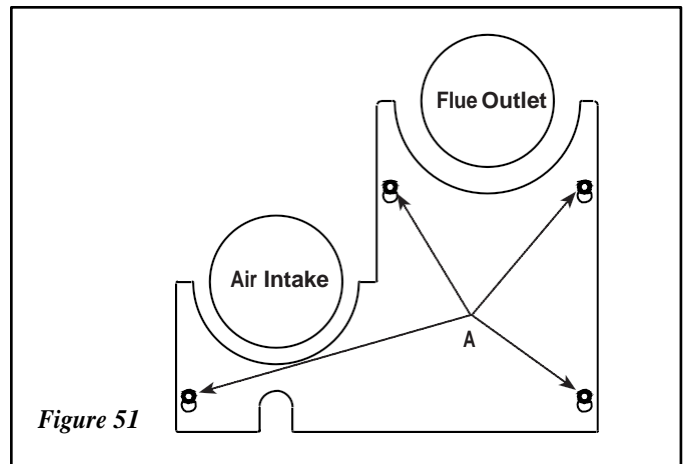

Figure 51
2. If the stove is connected to the vent pipe, loosen the four 5/32" allen head screws (see A in *Figure 51*) securing the lower cover plate beneath the flue outlet, lift the plate slightly and pull the plate off.